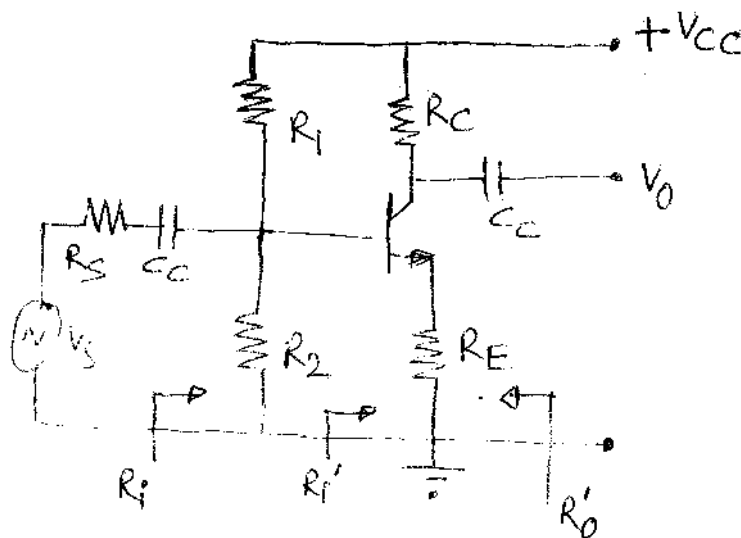

Fig. 2
3. A) For the circuit in fig. 2